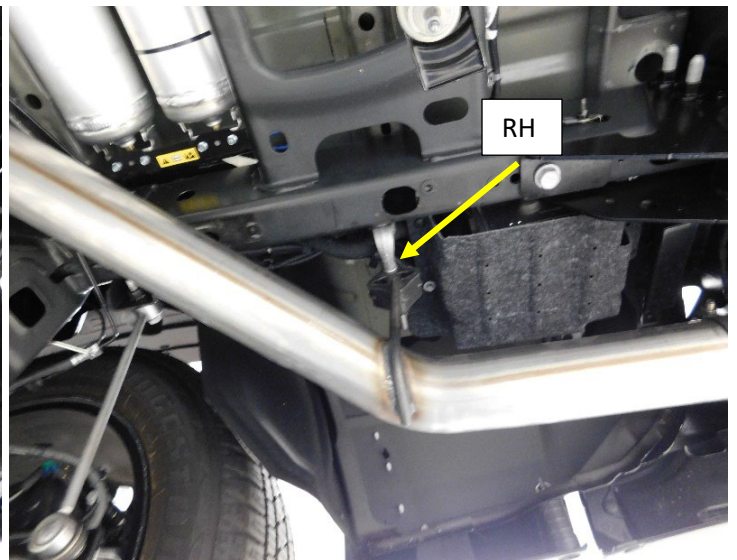

Figure.12
16. Install the rear tail pipe hanger rod (RH) into the isolator at the rear of the frame. **Fig.12**